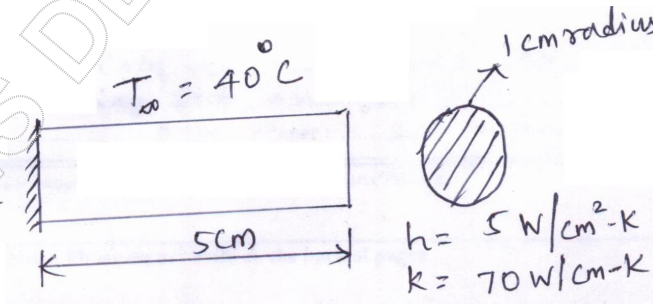

Fig. Q10 (a)
- 10 a. Find the heat distribution in the '1D' Fin as shown in Fig. Q10 (a). Take two elements for FE idealization.